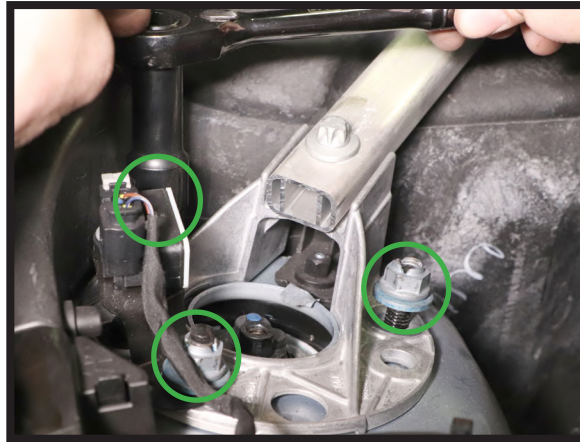

FIGURE 15
16. REMOVE THE THREE (3) TOP STRUT MOUNT NUTS. (FIGURE 15)